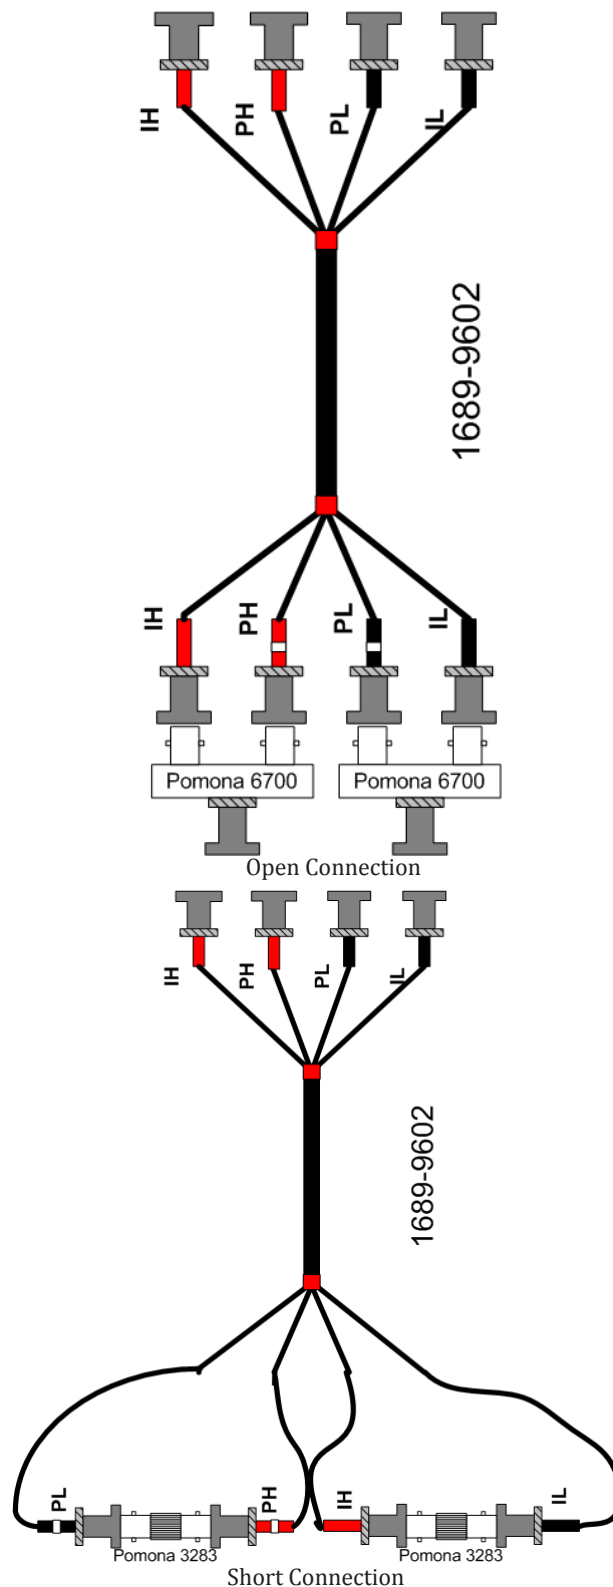

Figure 3-3: Open and short measurements with bnc-to-bnc cables
Open and short should be performed as shown in Figure 3-3 below when using bnc-to-bnc cables with bnc-T connectors. During short connection two Pomona 3283 bnc (F)-(F) adapters are used to connect potential together and drives together.